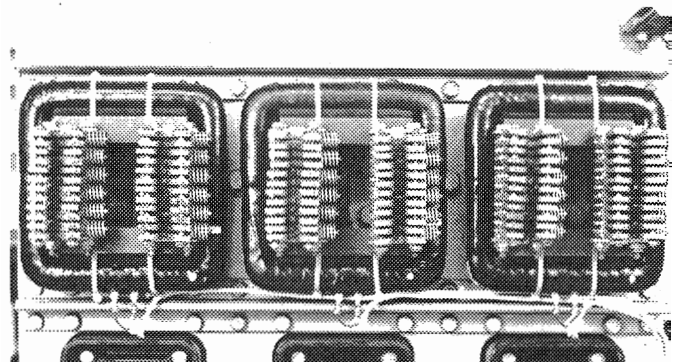

Figure 20. CTs installed on the breaker.
5. Reattach the primary disconnect assemblies to the stabs, as shown in Figure 20: